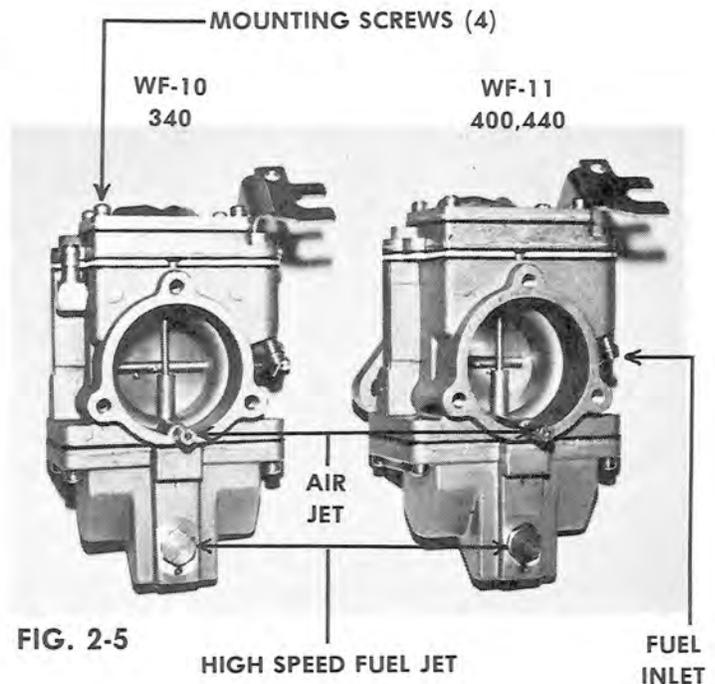

FIG. 2-5
1. Remove four (4) mounting screws. (See FIG. 2-5).